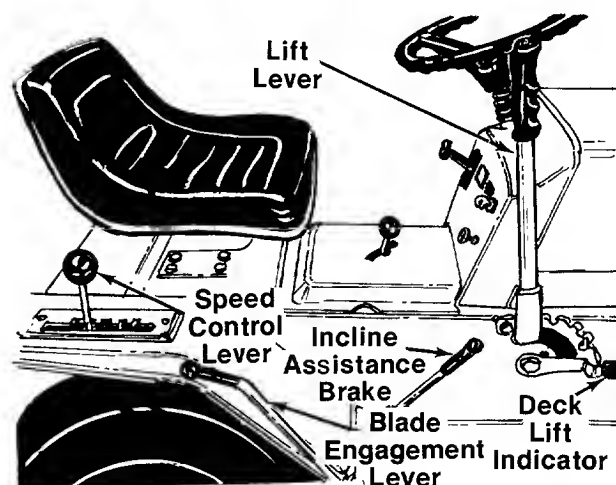

FIGURE 10.
The speed control lever is located on the right fender. It allows you to regulate the ground speed of the lawn tractor. See figure 10. To select the ground speed, depress clutch pedal. Push speed control lever outward and move backward to slow lawn tractor, move forward to increase speed. When desired speed has been obtained, release lever in that position. Whenever clutch is engaged, unit will automatically go to the pre-set speed.
When stopping on a hill, hold the incline assistance brake lever back while you release the clutch-brake pedal until the lawn tractor begins to move, then release the lever. This lever permits smoother starts and clutch engagement by holding the tractor during the brake release/clutch engagement operation. See figure 10.
The lift lever is located on the right side of the unit. It is used to raise and lower the cutting deck and other attachments. Move the lever to the right, then forward or backward to the desired position and release. See figure 10.
The deck lift indicator marks the position being used for the lift lever. Select the lift lever position desired, press the indicator lever outward, move it to the position immediately below the lift lever and release the indicator lever. See figure 10.
3. Place the blade engagement lever in the DISENGAGED position. See figure 10.